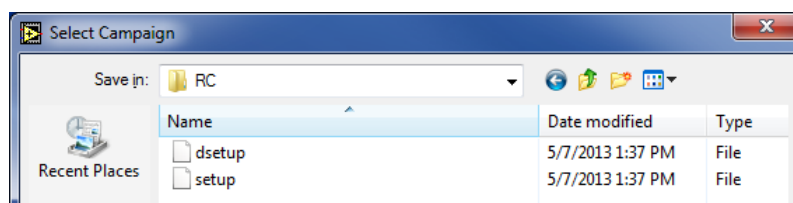

Figure 4-3: RCM setup files inside own campaign
- **Load setup:** load the setup from the current campaign. (See Figure 4-3)
- **Save setup:** save the setup to the current campaign. (See Figure 4-3)